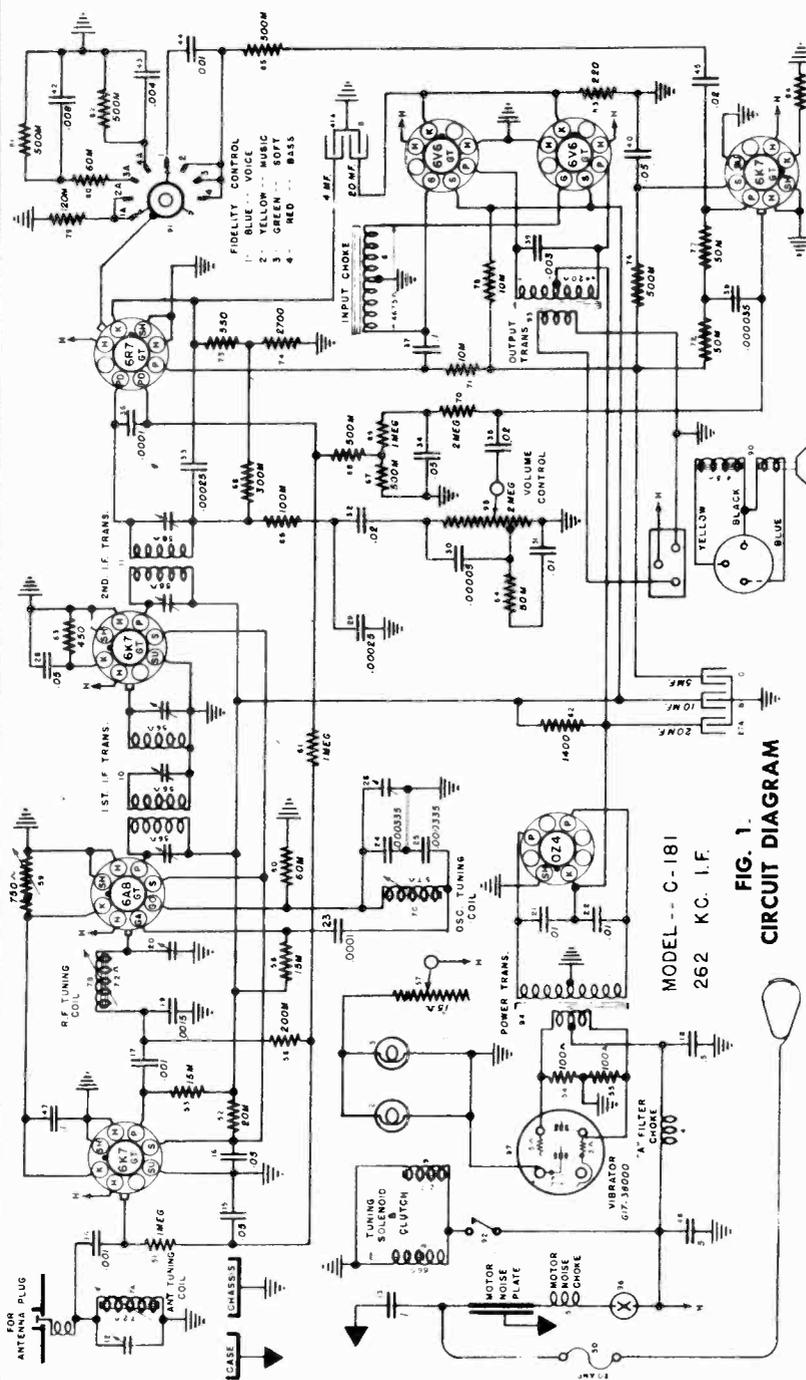

FIG. 1.
3. Depress the large push-bar and hold in depressed position while carefully tuning in manually, the station which is to be represented by the figure 1 in the small window. Release bar and the first station has been set. Depress the push-bar and hold in that position then tune in manually the second station, and so on, until the five station positions have been set. To tune the receiver with the automatic station selector bar, merely keep depressing the bar until the program you wish to hear is tuned in. The numbers 1 to 5 which appear in the small window to the right of the dial, will indicate the station.